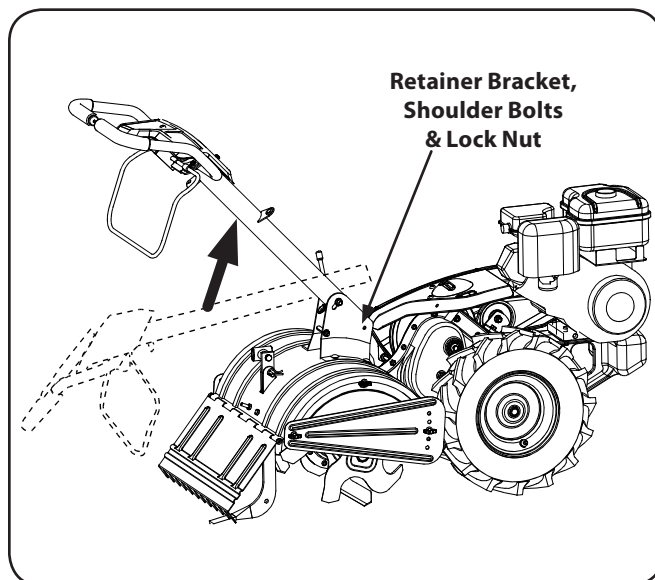

Figure 3-3
3. Lift up the handle assembly and align the bottom holes in the handle assembly with the holes in the pivot bracket. Insert the shoulder bolt from the left side of the tiller through the pivot bracket and the retainer bracket on the right hand side of the tiller. See Fig. 3-3.